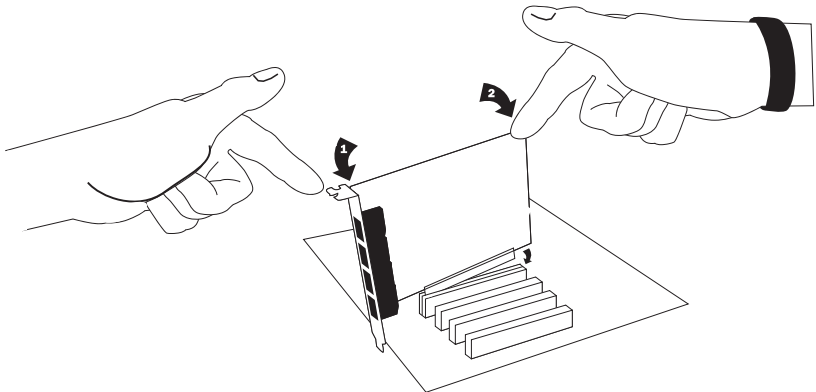

Figure 10: Insert the Card
4. Remove the bracket place holder and insert the card into the PCI or PCI Express slot. See Figure 10 for an example of card installation.